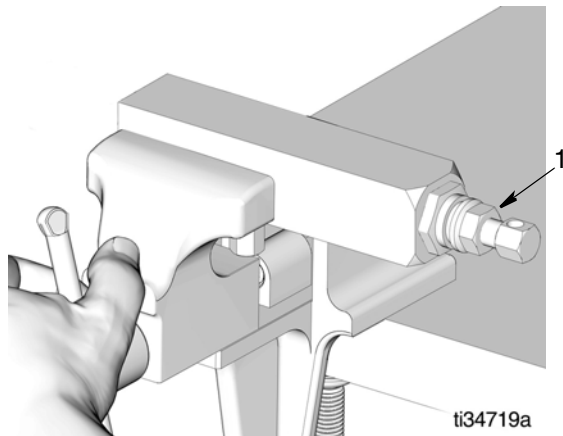

FIG. 4
8. Secure injector in a vise (FIG. 4).
9. Turn adjustment screw (1) (FIG. 4) all the way out to reduce the spring tension as much as possible.